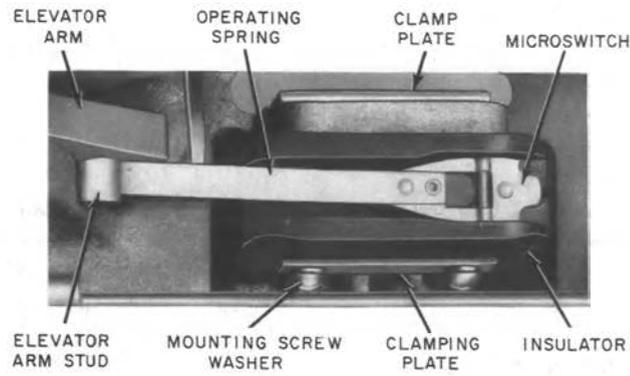

Fig. 42—In-Bin Microswitch
3.44 Microswitch: To replace the microswitch (Fig. 42), proceed as follows.